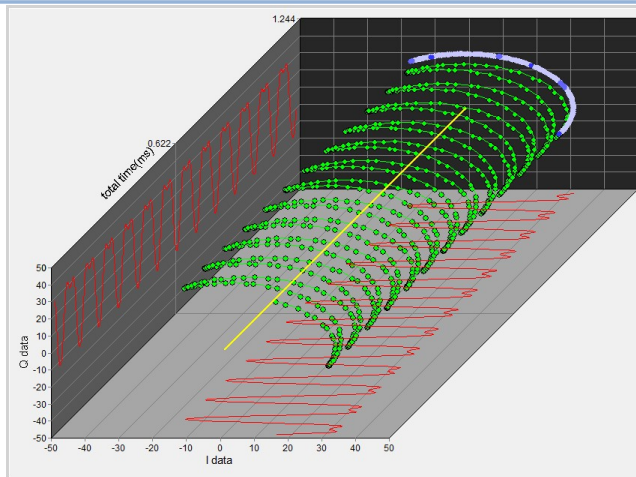

Fig.26 Analog phase-modulated (PM)
Analog phase-modulated (PM) signals can be directly observed in STFT-PHASE mode. The 3-dimensional phase display shows how the signal's instantaneous phase changes over time, making PM behavior easy to understand. In the example shown in Fig. 26, the test PM signal uses a 40% modulation index, meaning one cycle corresponds to a phase swing of approximately 144 degrees.